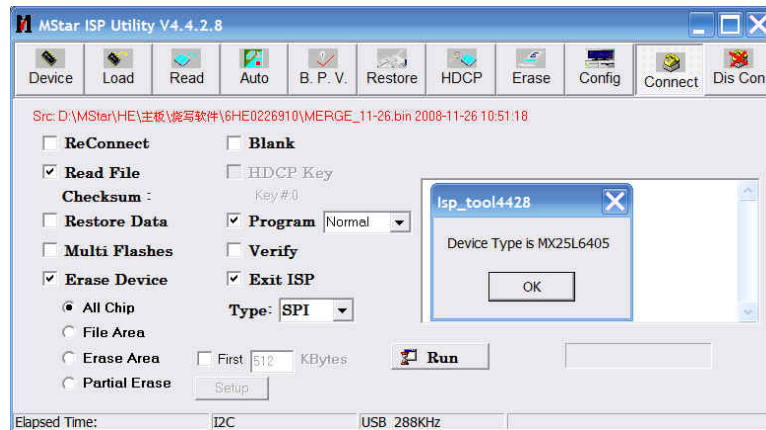

Fig. 3 Device MX25L64 successful connection
- 3) Press menu “Connect”, dialog box “Device Type is MX25L64” (device type depending on parts used on board actually) will display to show successful connection; please refer to Fig. 3;